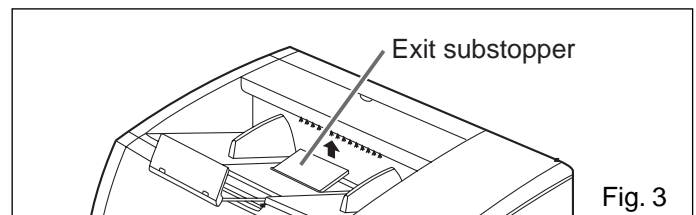

Fig. 3
- When scanning thin documents, raise the exit substopper slightly to let the document exit smoothly. (See fig. 3)